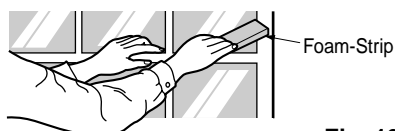

Fig. 19
- 8 Cut the Foam-strip to the proper length and insert between the upper window sash and the lower window sash.(See Fig. 19)